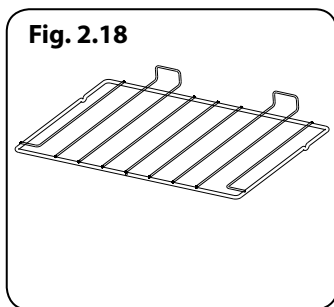

Fig. 2.18
- 2 standard shelves (Fig. 2.18)